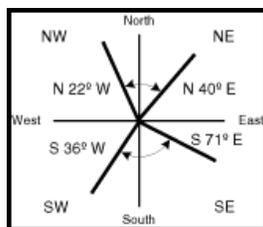

Figure 156: ArcMap Quadrant Bearing
- In the quadrant bearing system, depicted in Figure 156, the bearing of a line is measured as an angle from the reference meridian, either the north or the south, toward the east or the west. Bearings in the quadrant bearing system are written as a meridian, an angle, and a direction. For example, a bearing of N 25 W defines an angle 25 degrees west measured from north. A bearing of S 18 E defines an angle 18 degrees east measured from the south.